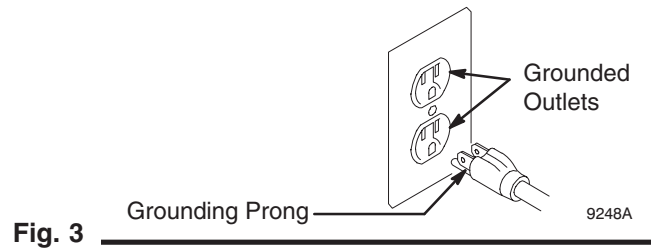

Fig. 3
1. All models require a 120 VAC, 60 Hz, 15A circuit with a grounding receptacle. See Fig. 3.